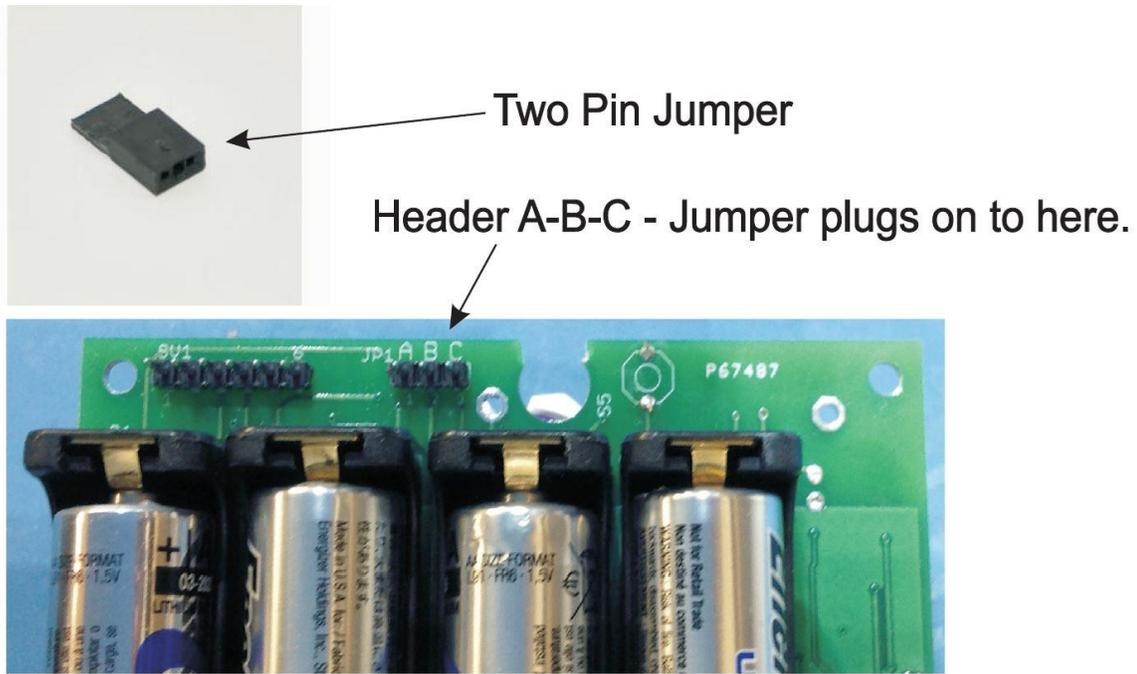

Figure 1 Two Pin Jumper and Header Setting
To access the header settings remove the front panel of the controller by unscrewing the (5) screws. Please refer to **Figure 1** below to see the header and jumper settings for the controller.